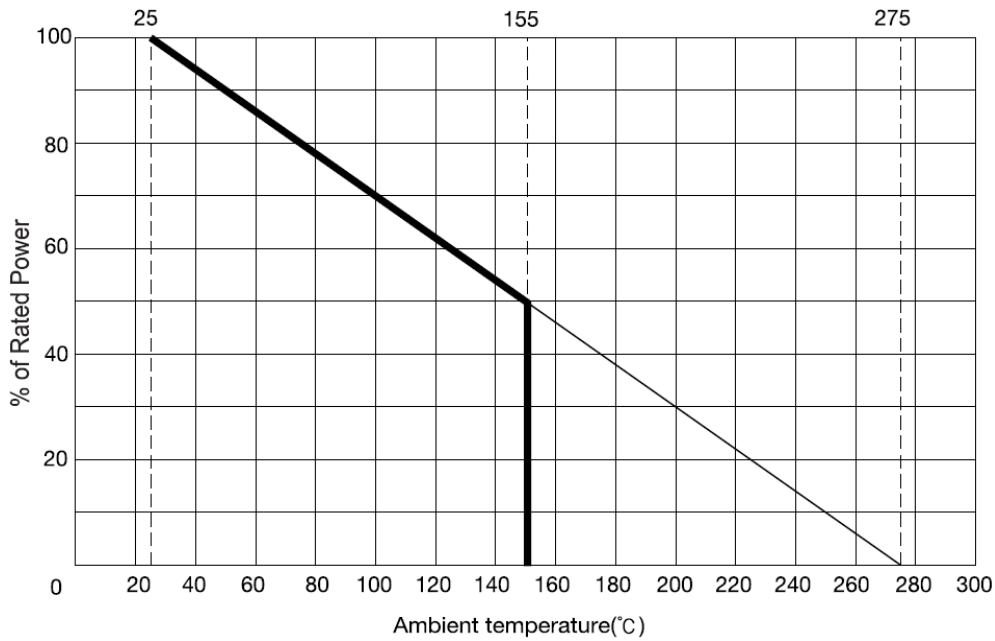

Figure 18. De-rating Curve Example of Shunt Resistor (from RARA Elec.)
- Power Factor (PF):  $0.8$
- De-rating Ratio of Shunt Resistor at  $T_{SHUNT} = 100^\circ\text{C}$ :  $70\%$  (refer to Figure 18)